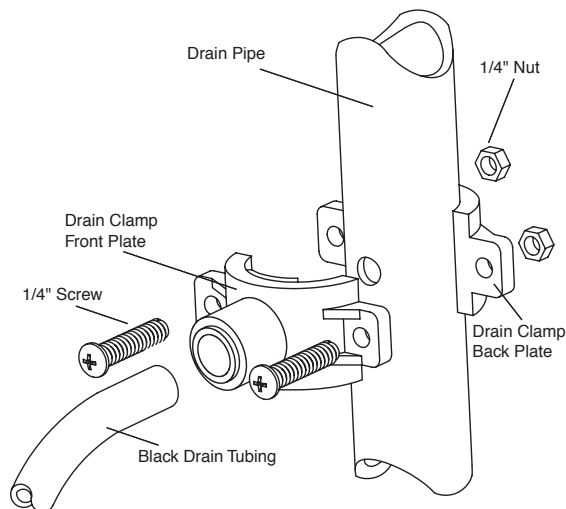

Figure 4
- Refer to Fig. 4. Insert the tubing into the Drain Clamp. Make sure the tubing is pressed all the way in to create a pressure-tight connection.